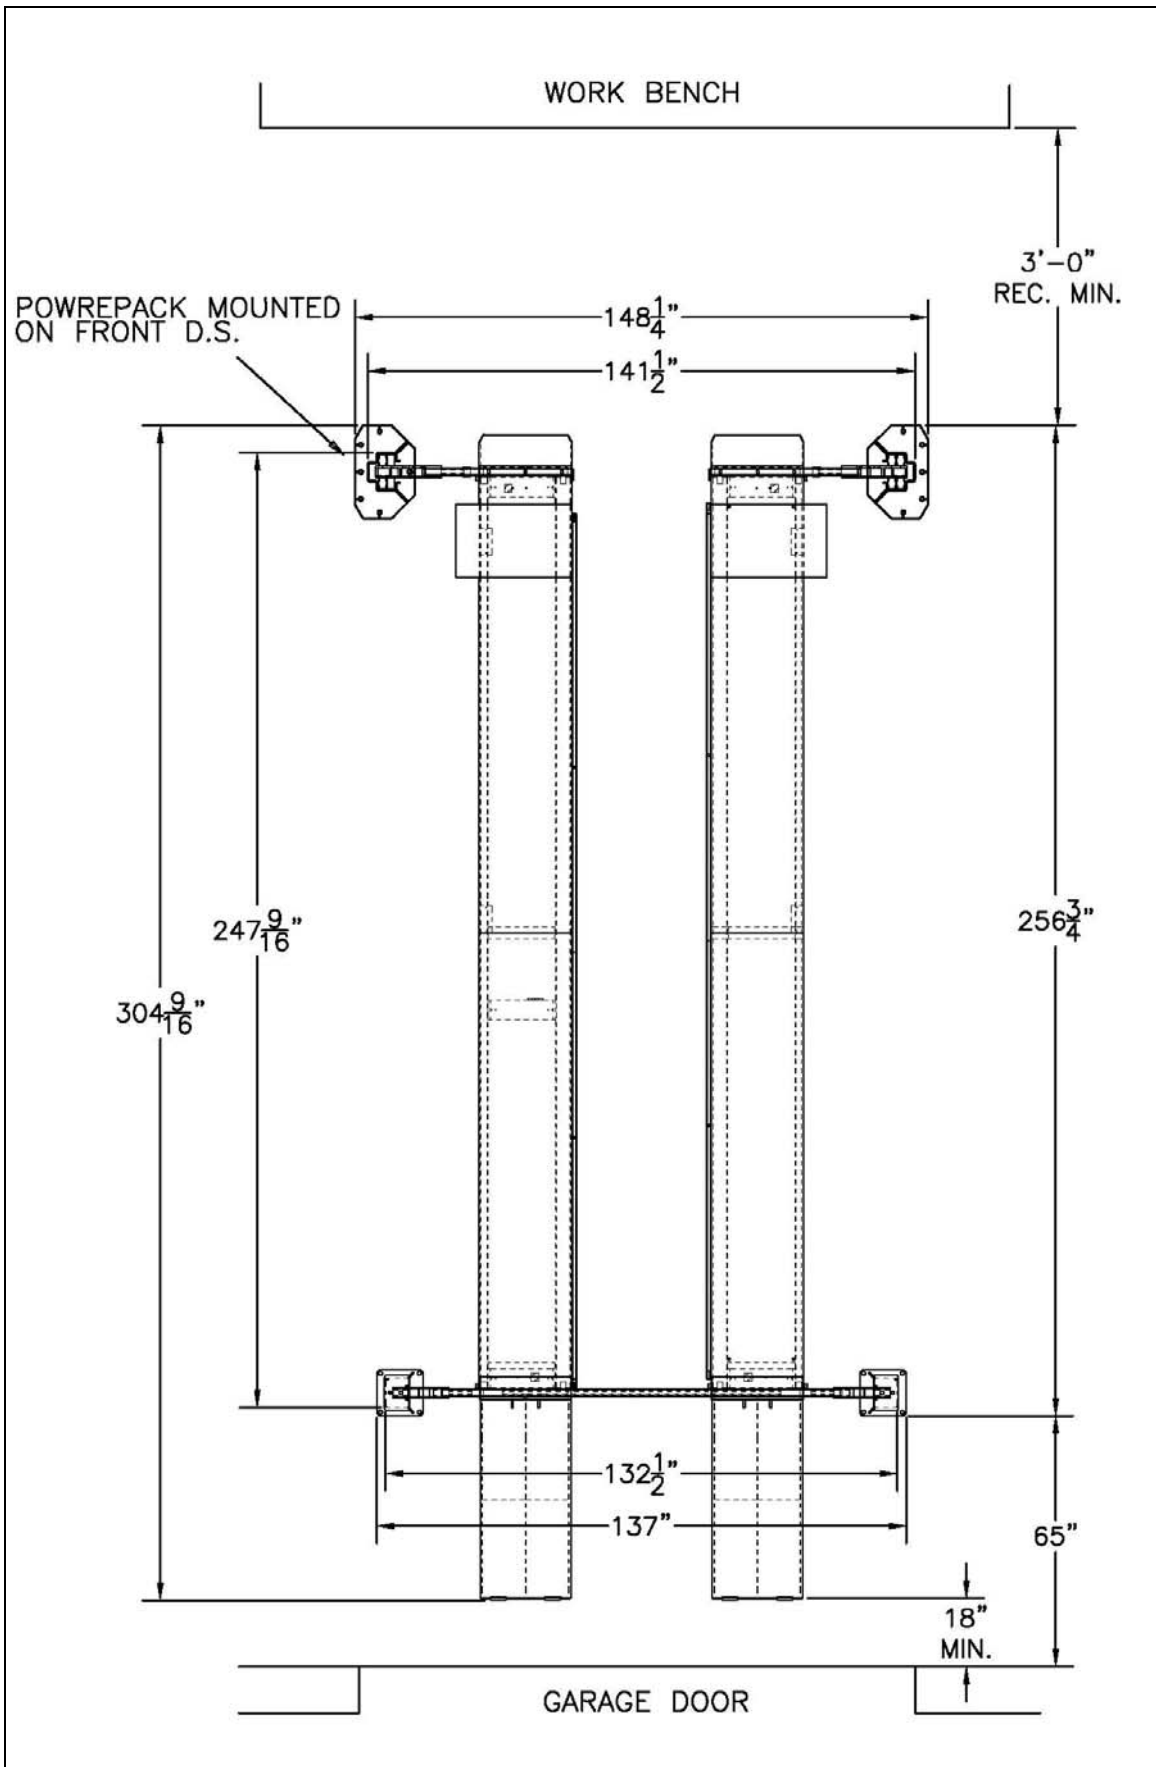
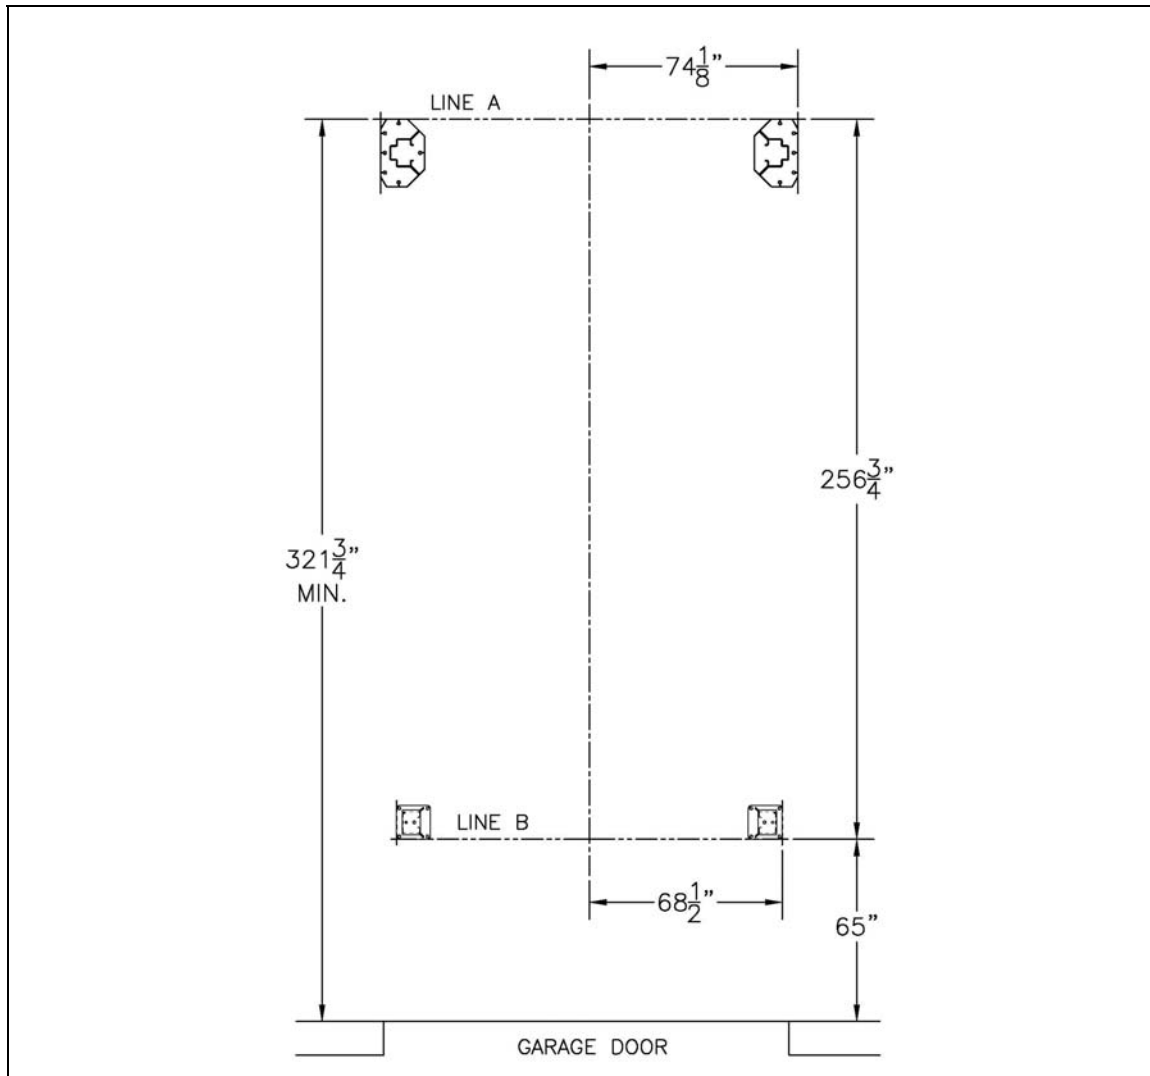

Figure 1. General lift specifications
Figure 2. Chalk line layout
- An outline matching the dimensions shown in Figure 2 will need to be marked on the floor. Refer to Figure 2 for outline dimensions. Refer to General Lift Specifications for overall lift dimensions. Figure 1.
- **Refer to Figure 2.** Make a chalk line parallel to the doorway at least $321\frac{3}{4}$ " in from the doorway. Call this line "A". This will be the location for the front face of the front posts baseplate.
- Stand front towers up and position as per bay layout. See Figure 1 and Figure 2.
- Stand rear posts into position according to Figure 1 and Figure 2.
- Install the threaded stud end of the cables through the top of the post. Use a 7/8" flat washer, and two (2) 7/8"-14 UNF hex nuts with cable spacers as required, to compensate for uneven floors.